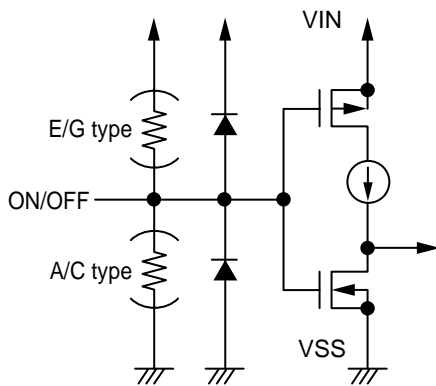

Figure 24
The ON/OFF pin is configured as shown in **Figures 24** and **25**. In the S-1711 Series A/ C/ E/ G types, the ON/OFF pin is internally pulled up or pulled down to VSS when in the floating status, so the VOUT pin is set to the V_{SS} level. In the S-1711 Series B/ D/ F/ H types, the ON/OFF pin is not internally pulled up or pulled down, so do not use these types with the ON/OFF pin in the floating status. When the ON/OFF pin is not used in the S-1711 Series B/ D/ F/ H types, connect the pin to the VIN pin in the B/ D types, and connect it to the VSS pin in the F/ H types.
*1. Note with caution that the power consumption of the IC is higher by that to be input to pull-up resistance or pull-down resistance the power off pin when the S-1711 Series A/ C types operated with the ON/OFF pin connected to VIN and the S-1711 Series E/ G types with the ON/OFF pin connected to VSS (refer to **Figure 24**).